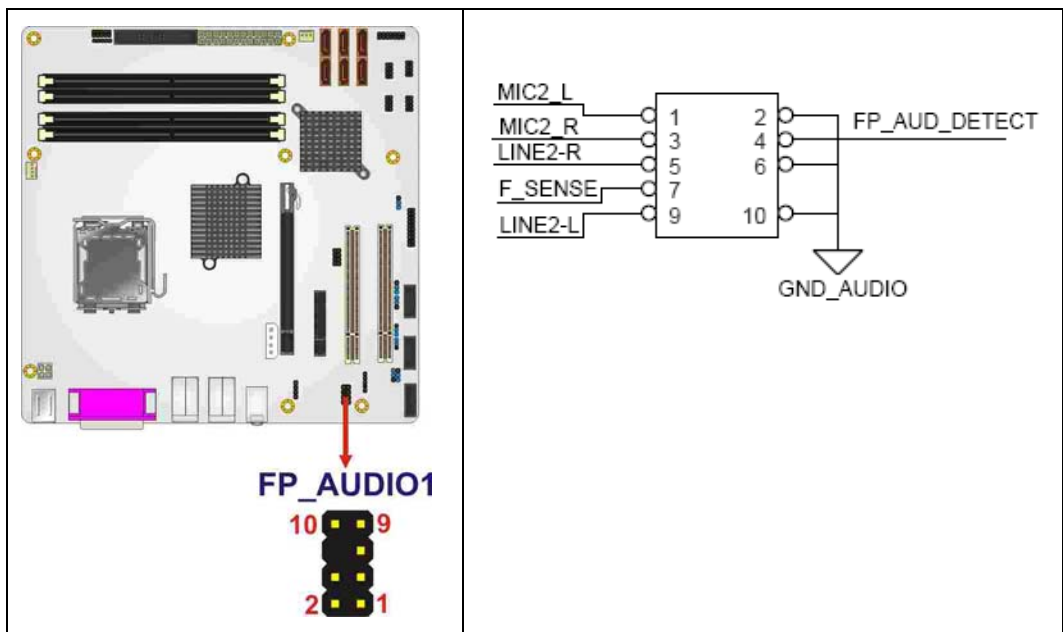

Figure 4-9: Front Audio Connector Location (10-pin)
- CN Location:** See Figure 4-9